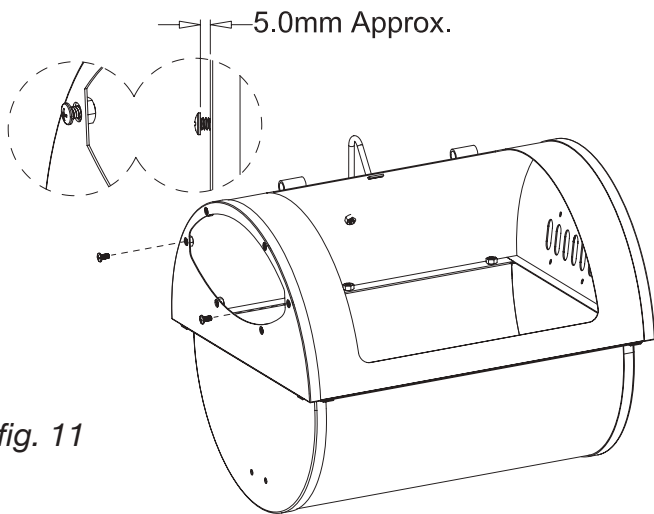

fig. 11
- Turn the firebox unit over so that it is sitting as per fig. 11. Screw 2xM6-15mm bolts into the holes at the side of the elliptical cut out leaving a space of 5mm between the head of the bolt and the side of the firebox unit.